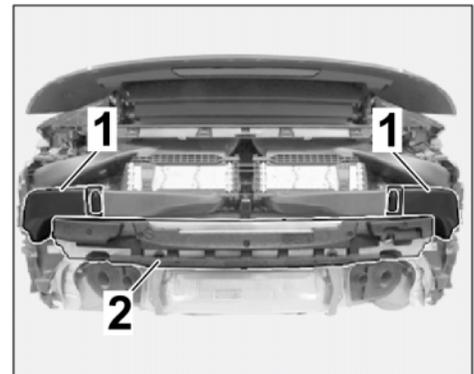

Figure 4
- 1.5 Remove rear bumper (⇒ *Workshop Manual '440519 Removing and installing rear bumper', ⇒ Figure 4*)